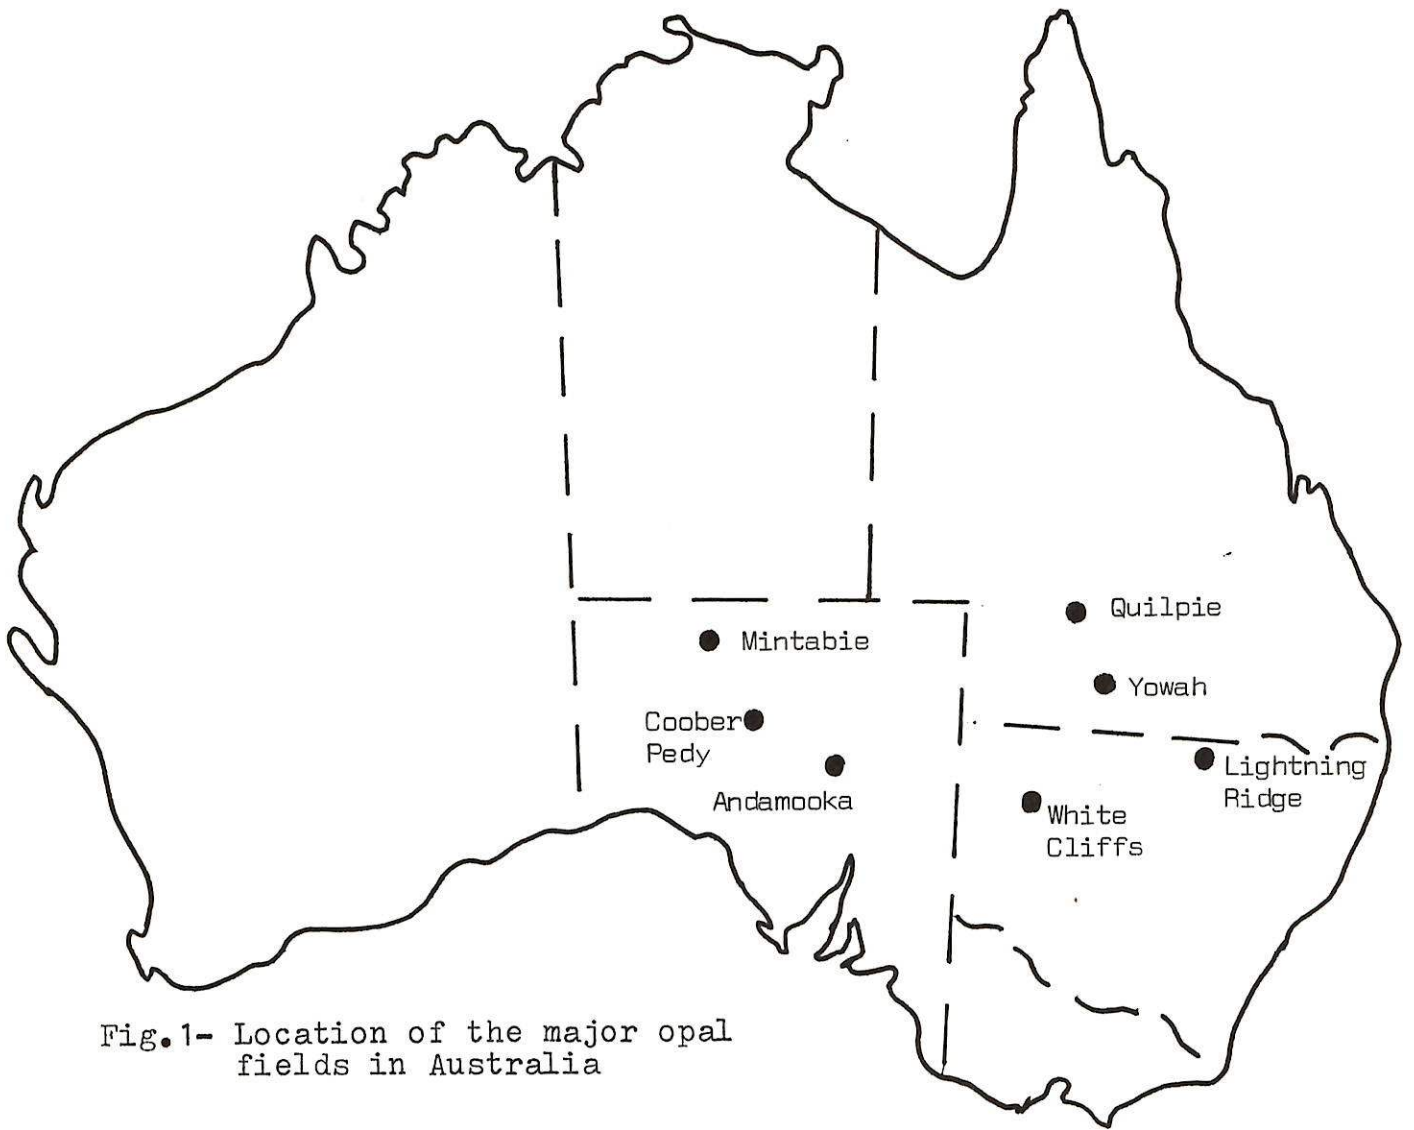

Fig.1- Location of the major opal fields in Australia
Mintabie is located (Fig.1) in the remote north of the Australian State of South Australia - approximately 400 km north-west of Coober Pedy. The small, nearby town of Marla acts as the general administration centre for Mintabie. The recent surge in mining activity at Mintabie can be attributed to two factors:
* See page 5 for Figures 1 and 2.